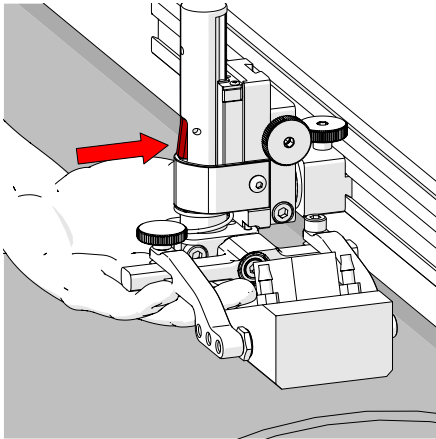
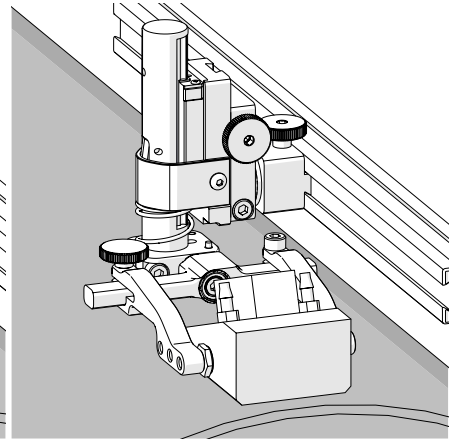

Fig. 108 - Press latch button
Fig. 109 - Lower toward scan surface
4. Lift the yoke slightly and press the latch button (Fig. 108), then slowly lower towards scanning surface to apply spring pressure to the wedge (Fig. 109).